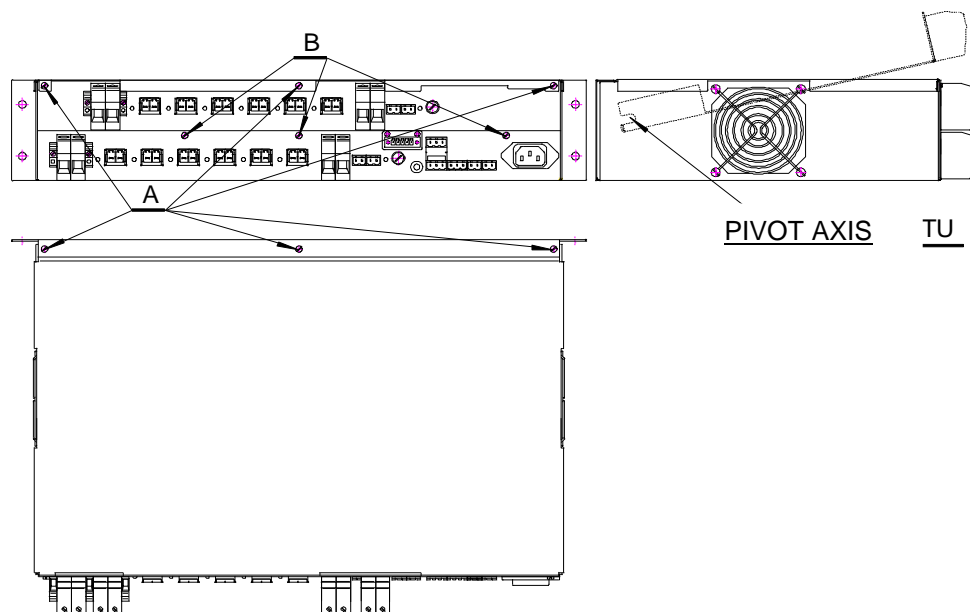

Fig.12. Access to the fuses in the 2U emergency supply version
The ZDSO400-ER4 emergency supply with height 2U on Fig. 12. has two sets of sockets and fuse holders – the upper and lower one. To access the upper set of fuses, the screws that fix the upper shield (A), should be unscrewed. To access the lower set of fuses, also the screws (B) needs to be unscrewed and the upper set of fuses and sockets needs to be raised.